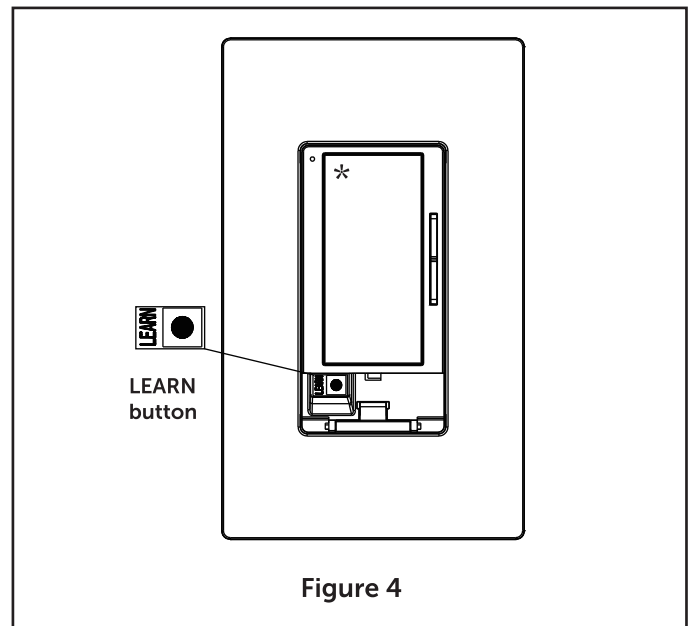

Figure 4
- 4. Learning Process: (Figure 4)